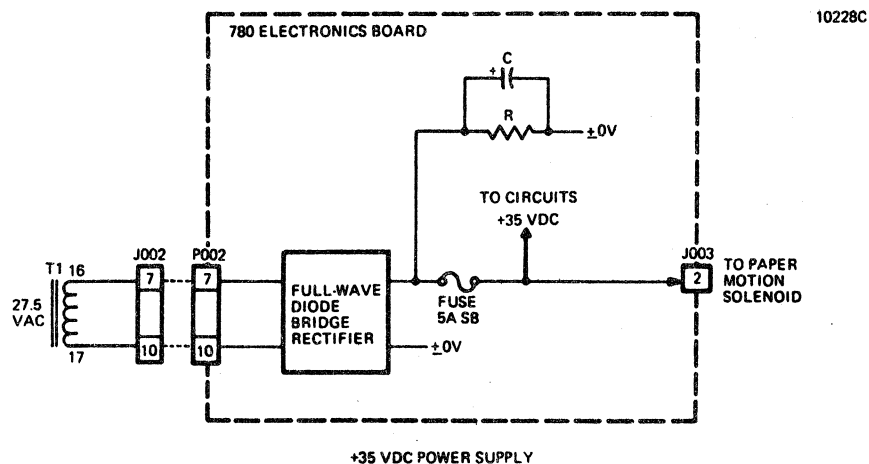

FIGURE 2-10. +35 VDC POWER SUPPLY
2.9.3 +35 VDC Power Supply (Figure 2-10)